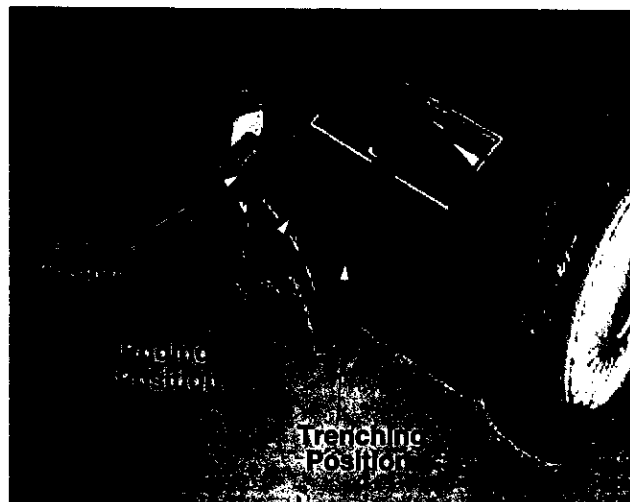
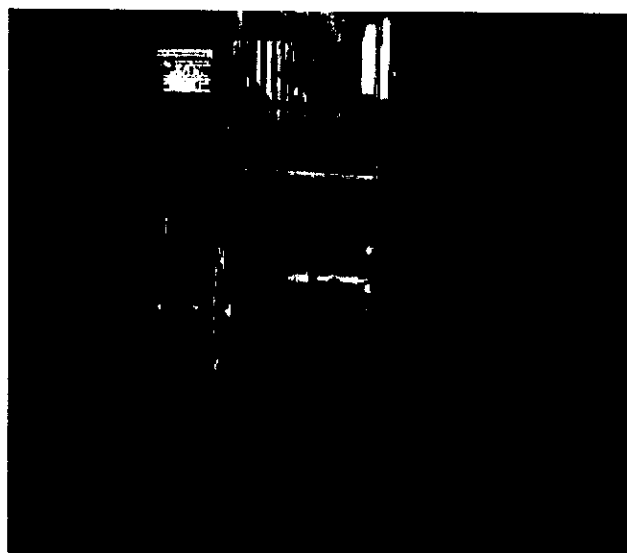
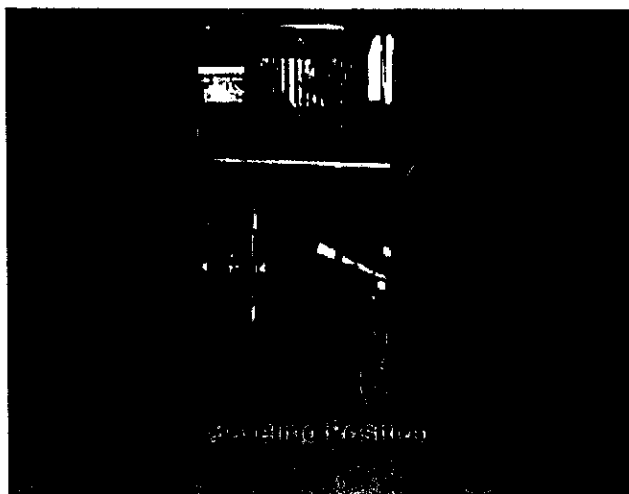

Figure 9
Figure 12
Figure 13
The cutting blade can be adjusted to five positions; from beveling to edging to trenching. To adjust, make sure the engine is not running. Release the adjustment lever on the pivot bracket and pivot the lever to the desired cutting position. Place the adjustment lever in the notch desired. See Figure 9
1. Set the adjustment lever (refer to Figure 9) in the middle notch of the blade tilt control to edge vertically. See Figure 12.
2. Set the adjustment lever (refer to Figure 9) in the first or second notch at the top for beveling. See Figure 13.
3. Set the adjustment lever (refer to Figure 9) in the fourth or fifth notch at the bottom for trenching. See Figure 14.